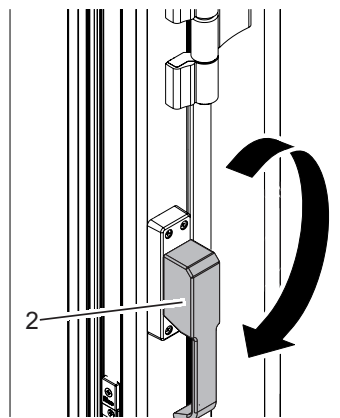

Fig. 9: Door lock bar down = door function
1. Move the door lock bar (Fig. 9) by 180° down to the door mode.
Grease mushroom head with multi-purpose grease. <ul style="list-style-type: none"> <li>☞ Only the mushroom head (Fig. 9/1) on the single action sliding panel must be greased.</li> <li>☞ Also grease the inclined bottom side of the mushroom head.</li> </ul>	Maintenance personnel